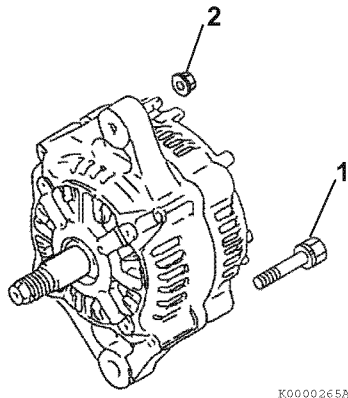

Figure 11-15
- Align the front frame housing with the rear frame housing. Reinstall the two bolts (1, **Figure 11-15**) and two nuts (2, **Figure 11-15**).